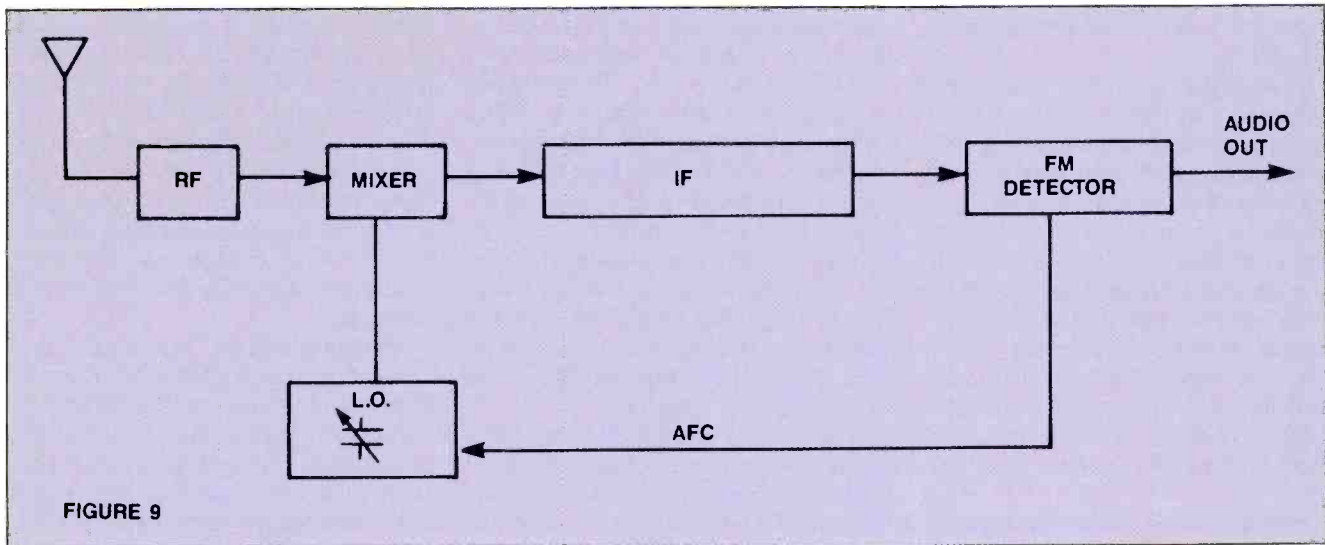

FIGURE 9
**Figure 9.** The varactor-tuned variable frequency oscillator is used as the LO in FM receivers. The FM detector produces an error voltage that indicates how far off center the tuning is and feeds it back via the automatic frequency control (AFC) line to the tuning voltage input on the tuner. The AFC voltage drives the LO operating frequency to the center-tune condition.
An application that is more familiar to most readers is shown in Figure 9. The varactor-tuned variable frequency oscillator is used as the LO in FM receivers. The FM detector produces an error voltage that indicates how far off center the tuning is and feeds it back via the automatic frequency control (AFC) line to the tuning voltage input on the tuner. The AFC voltage drives the LO operating frequency to the center-tune condition.